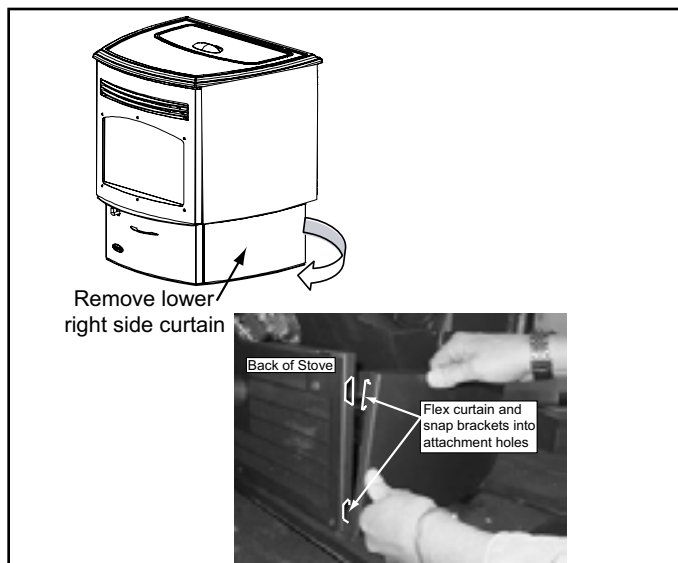

Figure 33.1
- Remove the right lower side curtain by releasing bracket from attachment holes in the back and then swing it to the front and lift off of the appliance. When re-installing flex curtain to re-attach. **Figure 33.1.**
- Remove both lower side curtains. **Figure 33.1.**
- e. Remove the right lower side curtain by releasing bracket from attachment holes in the back and then swing it to the front and lift off of the appliance. **See Figure 33.1 on page 33.**